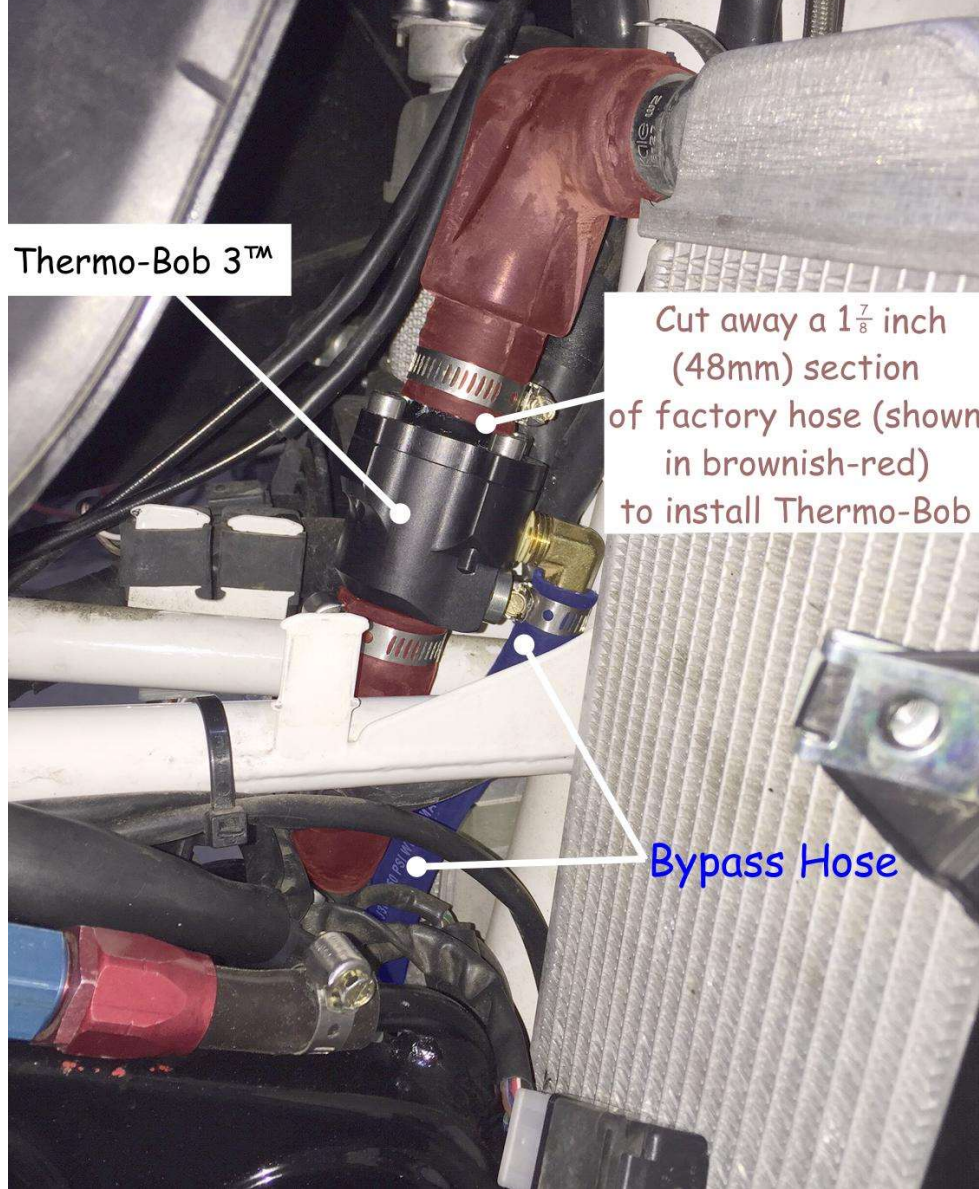
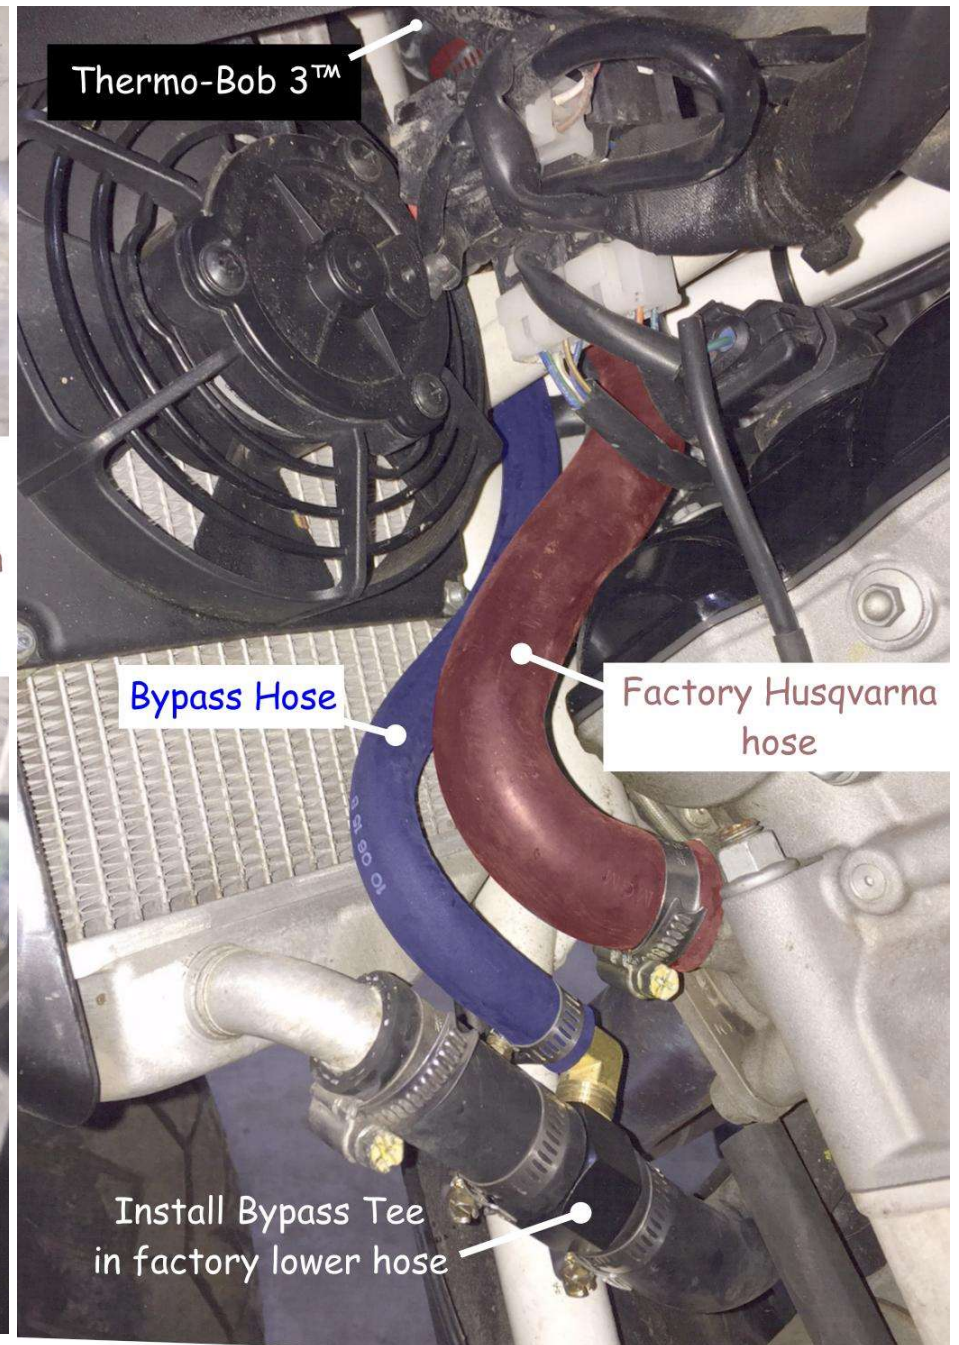

Figure 1: View from Right side of bike.
Figure 2: View from Left side of bike.
Figures 1 and 2 on the next page shows a completed installation. Details are described below:
- 1) Remove a 1 7/8" (48mm) section of the factory radiator hose that connects the engine exit to the radiators as shown in Figure 1. Before installing the Thermo-Bob in this section of hose, slide the supplied bypass hose onto the brass barb on the Thermo-Bob and place a supplied small clamp onto the bypass hose and tighten appropriately. Think about how you'd like this clamp to be oriented for future access, just in case.
- 2) Install two of the large supplied clamps onto the open ends of the freshly-cut factory hose, slide the Thermo-Bob into the upper hose as shown in Figure 1, and tighten the two large clamps appropriately.
- 3) Now move to the left side of the bike. Remove a 5/8 inch (16 mm) long section of the factory lower hose that exits the bottom of the left radiator and insert the supplied bypass tee as shown in Figure 2. Use the other two supplied large clamps, and tighten appropriately.
- 4) Cut the supplied bypass hose (colored blue in Figures 1 and 2) to an appropriate length (measure twice, cut once!) for it to attach to the brass barb on the bypass tee as shown in Figure 2. **TIP: After determining the proper length and cutting the hose, slide the remaining supplied small clamp onto the bypass hose first, then dip the end of the hose in a cup of coolant and wipe off the outside. This will lubricate the inside of the bypass hose, making it easier to slide on to the brass barb on the bypass tee.**